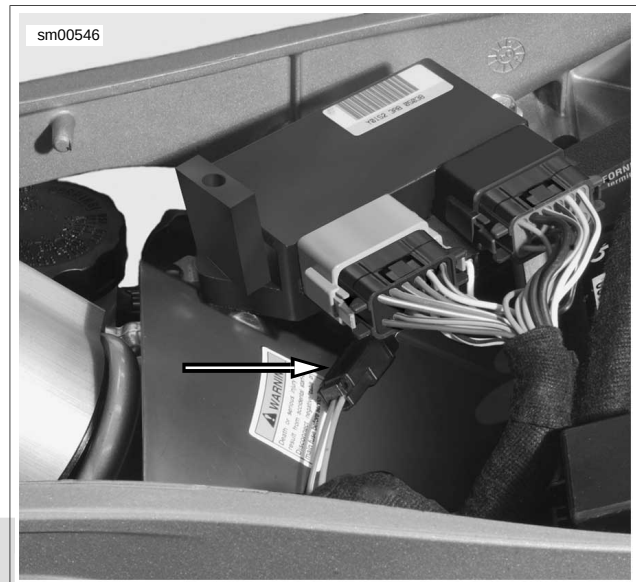
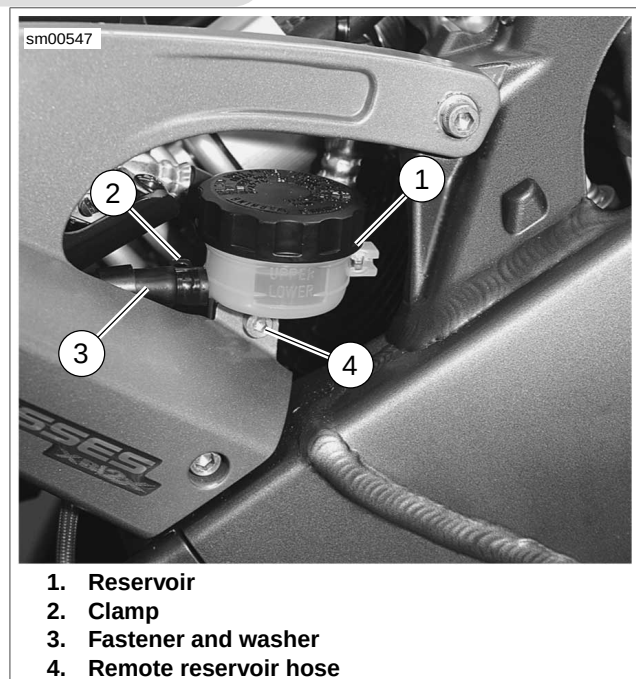

Figure 2-54. Brake Line Switch Connector (Ulysses)
Figure 2-55. Remote Reservoir: Ulysses
6. See Figure 2-54. Disconnect brake light connector located under the seat.
8. Remove fasteners (11) to detach master cylinder (4) from rider footpeg mount.
9. See Figure 2-55. Detach remote reservoir.
- b. Remove top clamp (2) on hose connected to master cylinder.
- c. Remove fastener and washer (3) to detach reservoir (1) from frame if necessary.
4. See Figure 2-55. Connect remote reservoir.
- a. If removed, attach remote reservoir (1) to frame using fastener and washer (3). Tighten to 48-72 **in-lbs** (5.4-8.1 Nm).
- b. Attach hose (3) to rear brake reservoir using clamp.
5. See Figure 2-54. Connect brake line switch connector under seat.